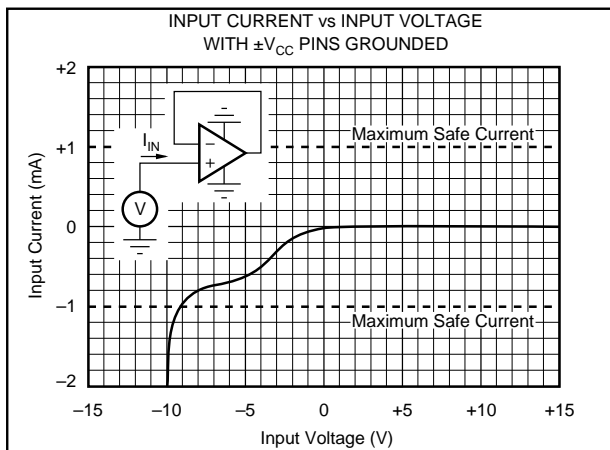

FIGURE 2. Input Current vs Input Voltage with $\pm V_{CC}$ Pins Grounded.
NOTES: (1) Packages must be derated based on $\theta_{JC} = 30^\circ\text{C}/\text{W}$ or $\theta_{JA} = 120^\circ\text{C}/\text{W}$. (2) For supply voltages less than $\pm 18\text{VDC}$ the absolute maximum input voltage is equal to: $18\text{V} > V_{IN} > -V_{CC} - 8\text{V}$. See Figure 2. (3) Short circuit may be to power supply common only. Rating applies to +25°C ambient. Observe dissipation limit and T_J .
Unlike BIFET amplifiers, the *Difet* OPA404 requires input current limiting resistors only if its input voltage is greater than 8 volts more negative than $-V_{CC}$. A $10k\Omega$ series resistor will limit the input current to a safe value with up to $\pm 15V$ input levels even if both supply voltages are lost. (See Figure 2 and Absolute Maximum Ratings).